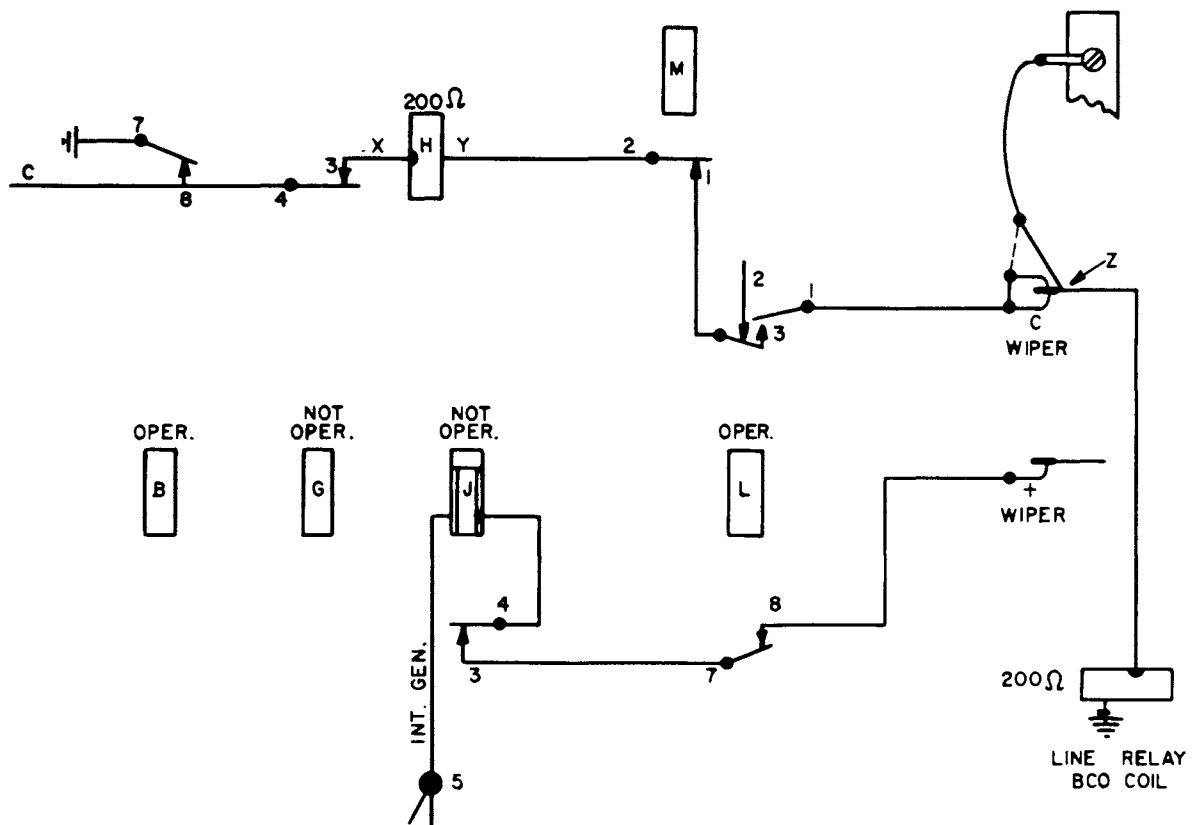

Figure 10. Verifying a break in a d-c circuit.
- a. For an example of verifying a break in a d-c circuit see figure 10. Assume an open circuit at Z in figure 10. This is a junction point for two P-A-X components (from conversation links, via the wipers, to the line relays, via the bank contacts). Although the test lamp will show this open, it can be verified by operating the line relay. Positive (+) battery from the bank contact operates the line relay, (+) battery from the wiper blades does not. The open circuit is located at point Z.